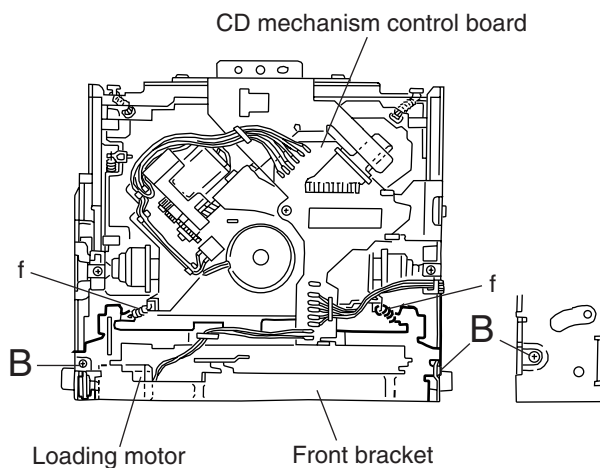

Fig.3
■ Removing the bottom cover (See Fig.3)
■ Removing the loading motor (See Fig.3 to 5)